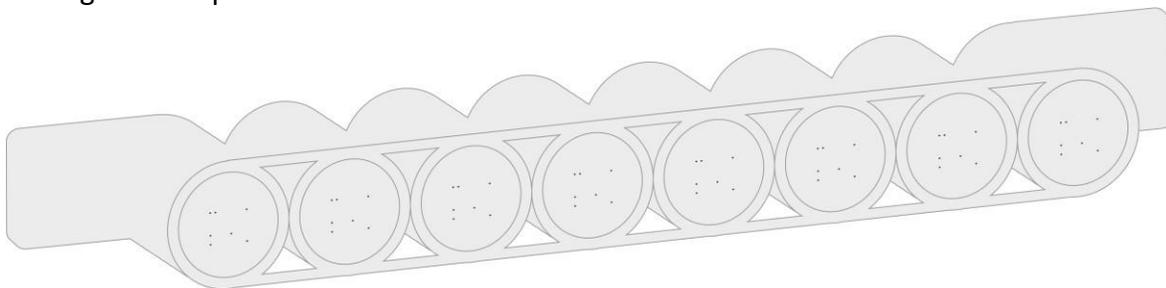

Figure 1. CLART-Strip® in the form of an 8 -well strip.
Displayed in Figure 1 is a CLART-Strip® (CS), each well including all specific probes for testing one sample.